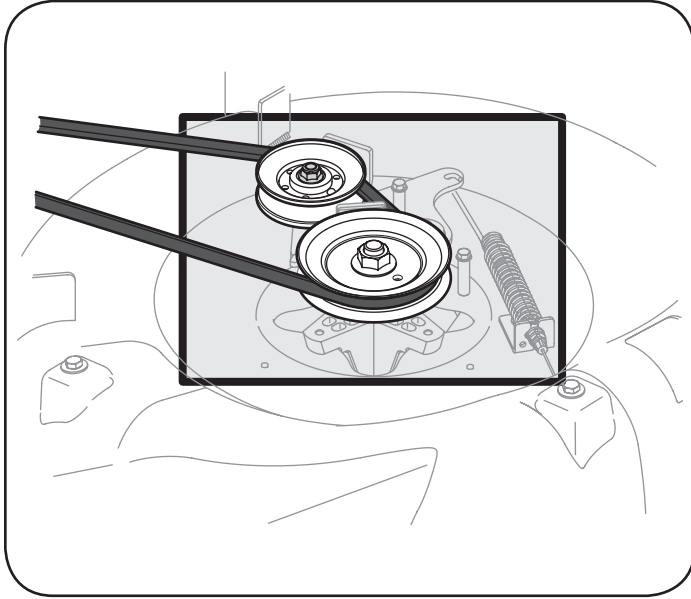

Figure 26
- Clean the top of the mower deck, under the spindle covers and belt area. See Figure 26.
- Clean around and near the transmission, axle and the fan area. See Figure 26.